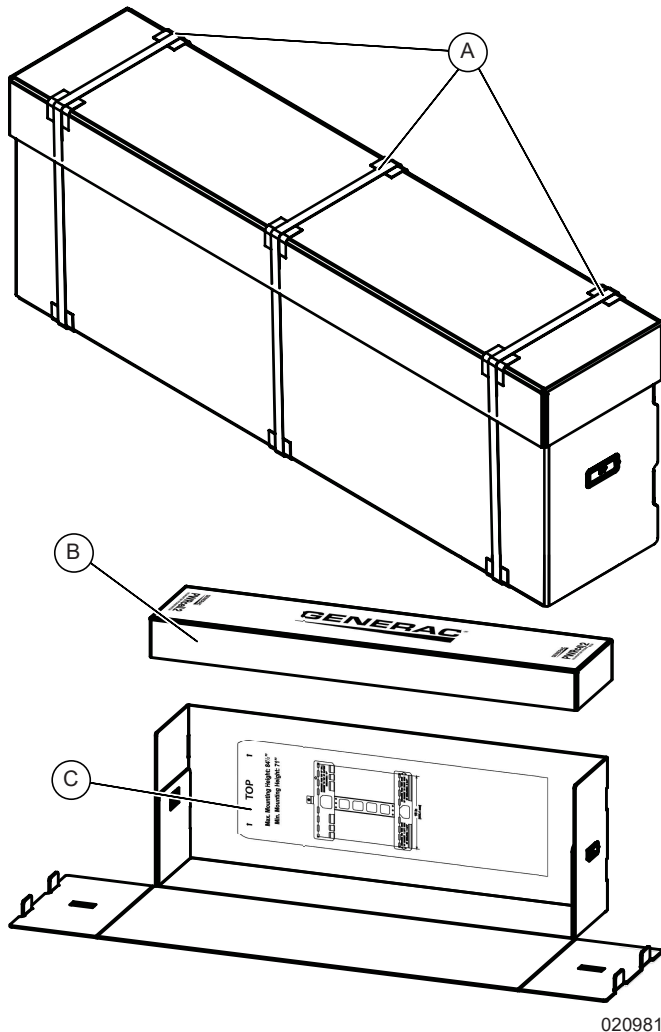

Figure 4-1. Unboxing the PWRcell 2 Battery
1. See Figure 4-1. Lay battery box on one of the long sides.